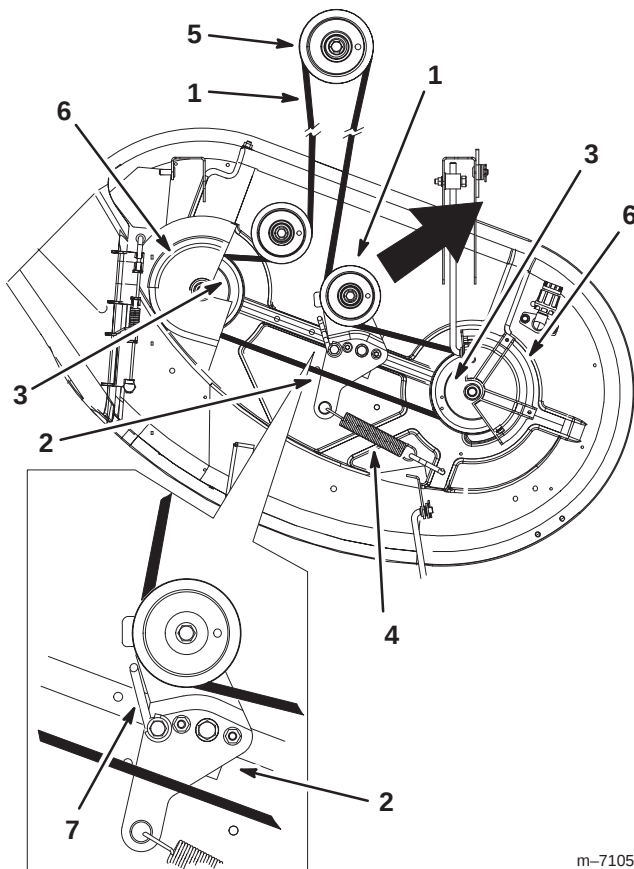

Figure 45
4. Remove the belt covers over the outside spindles and loosen the belt guide (Fig. 45).
5. Pull the idler pulley in the direction shown in Figure 45 and roll the belt off of the pulleys.
6. Route the new belt around the engine pulley and mower pulleys (Fig. 45).
7. Pull the idler pulley in the direction shown in Figure 45 and route the belt onto the idler pulley (Fig. 45).
8. Rotate the belt guide, on the idler arm, towards the pulley until it stops (Fig. 45).
9. Tighten the belt guide (Fig. 45).